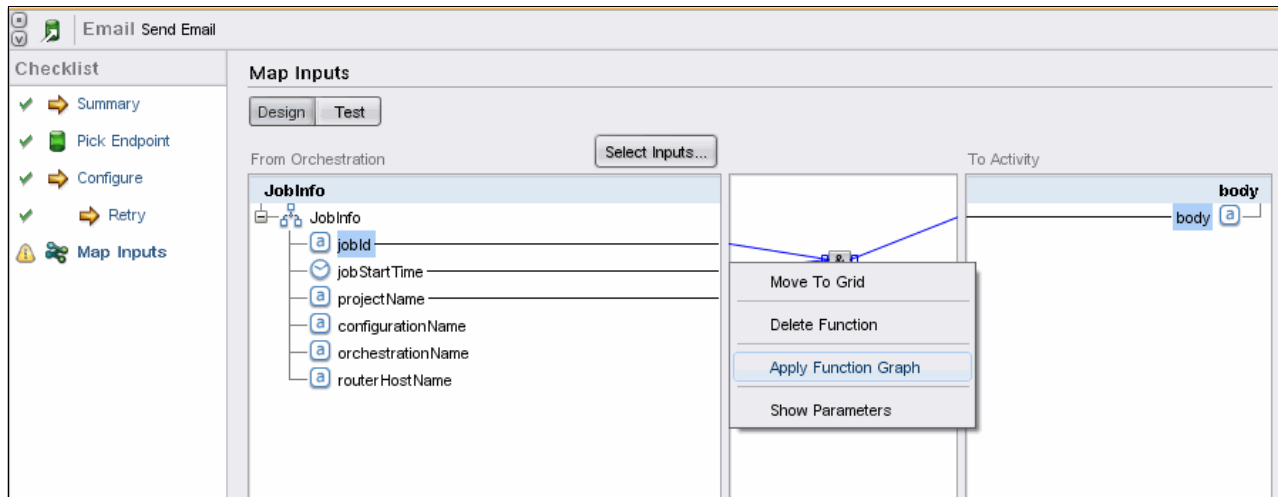

Figure 11-43 Apply Function Graph
13. Right-click the Concatenate function, and select **Apply Function Graph**, as shown in Figure 11-43.